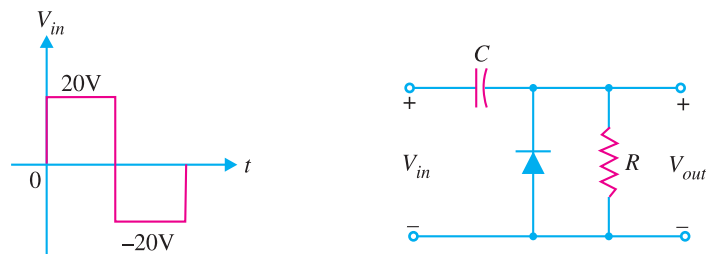

Fig. 18.72
7. Determine the output waveform for the clamper network shown in Fig. 18.72.